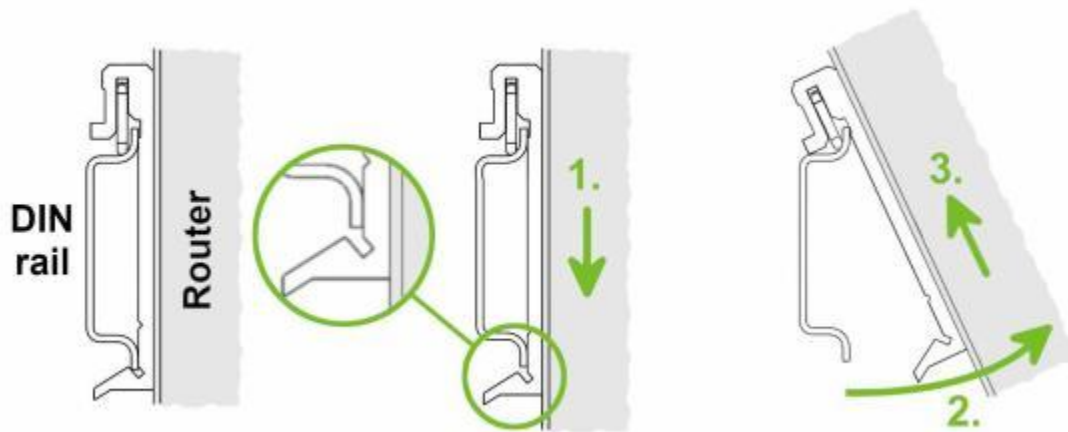

Fig. 8 Removing router from the DIN Rail
- Proceed to Fig.8 if you want to remove the device from DIN-Rail. Push down on the top of the DIN rail clip release tab with your finger. As the clip releases, lift the bottom of the device, as shown in the following illustration.